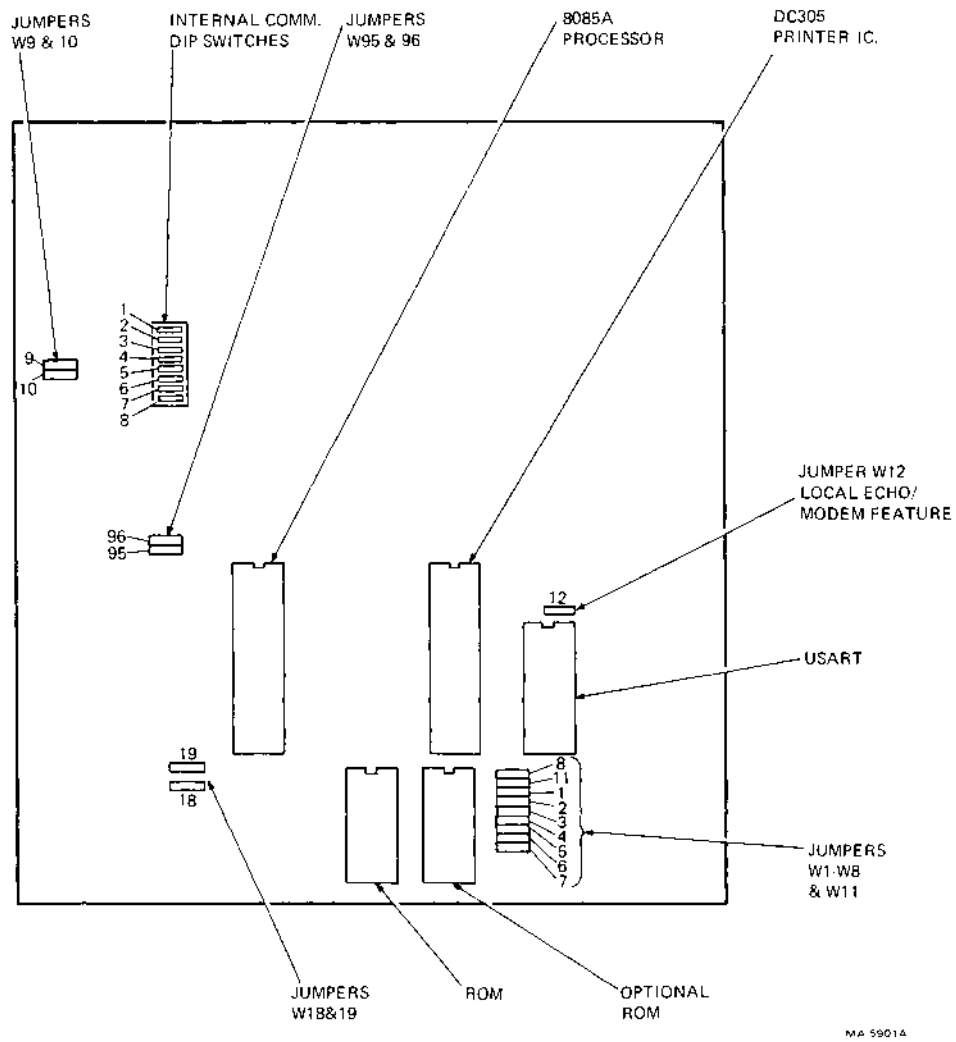

Figure 2-10 LA34/38-AA Control Board Component Location
6. The jumper can now be seen (Figure 2-10). Cut the jumper to select local echo or the modem feature, depending upon the DECwriter IV version being installed.